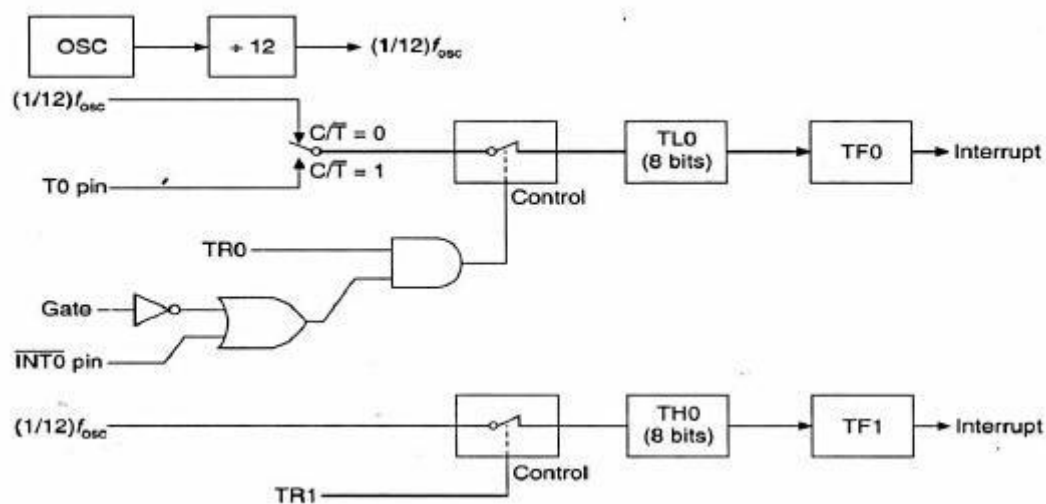

Figure 4: Timer 0, mode 3 _ split to two 8-bit
- "If the Timer 0 is put into mode 3 (Figure 4), then it acts as two 8-bit counters (TL0 and TH0 become two separate counters).